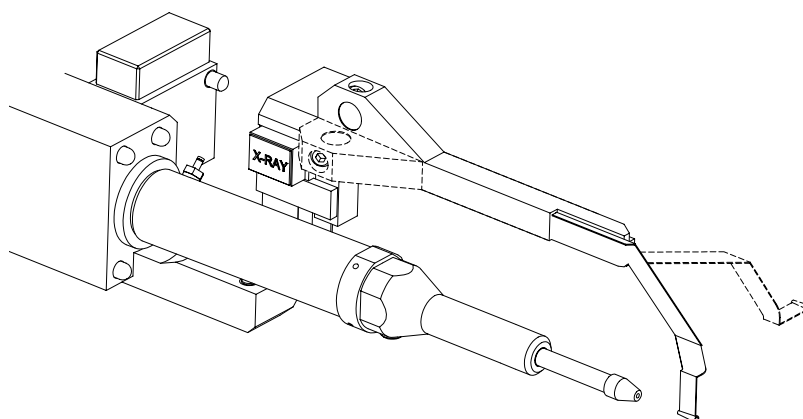

Figure 9.10.2 Schematic showing the rotated beam stop (dashed line shows “up” position and solid line shows “down” position).
2. Flip the beam stop to the UP position (see Figure 9.10.2)
2. Flip beamstop to the “up” position (see Figure 9.10.2)